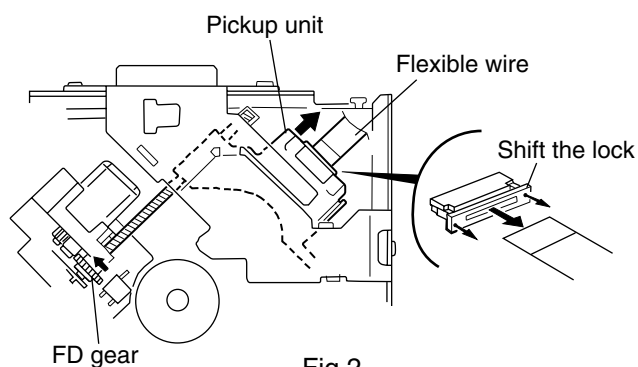

Fig.2
■ Removing the front chassis assembly (See Fig.2 and 3)
(Refer to Fig.2)